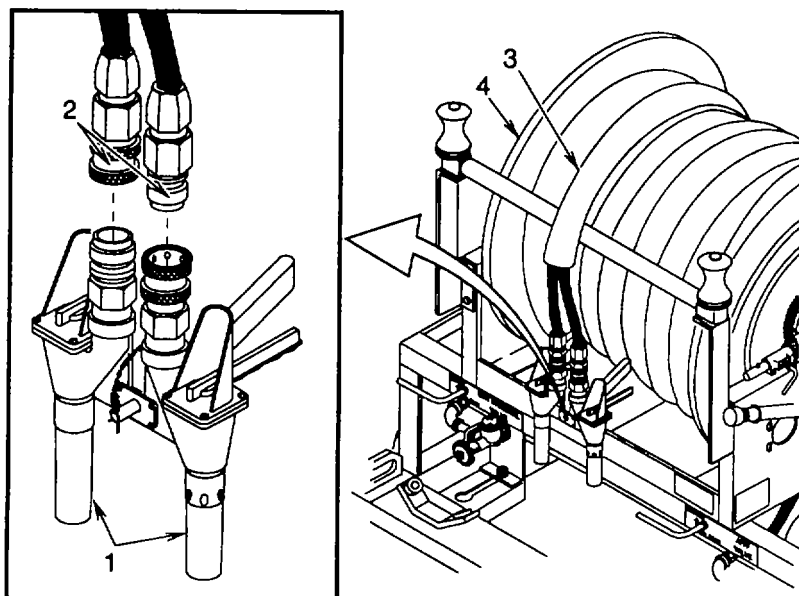

Figure 2-11. Unwind Hose Assembly From Trailer Mounted Extinguisher Assembly
- (1) Squeeze both fire hose nozzle (1) (fig. 2-11) valve levers to release any residual pressure.
- (2) Release coupling halves (2) and remove hose assembly (3) from fire hose nozzle (1)
- (3) Pull all the hose assembly (3) from drum (4).